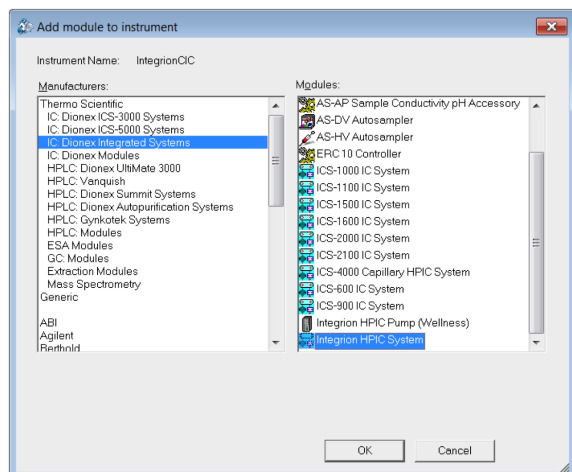
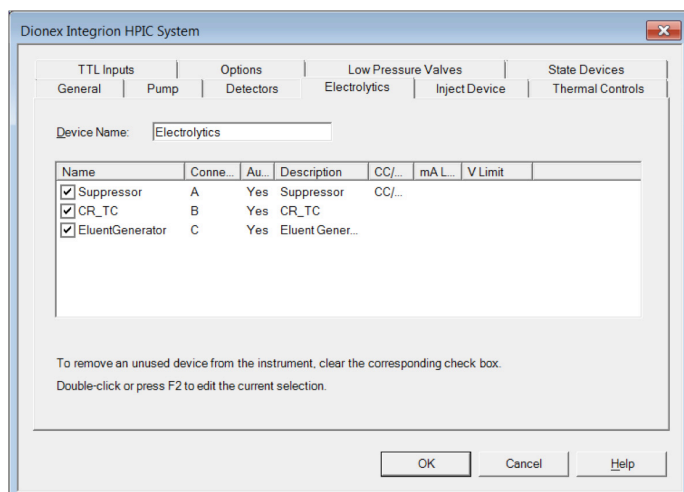

Figure 1. Creating a configuration
Figure 2. Automatic detection of electrolytic devices
1. Select *Add a Module, IC: Dionex Integrated Modules, and Integrion HPIC System* (Figure 1). A window with multiple tabs will automatically open up (Figure 2).
2. Select the Model Serial No. on the General tab. The Chromeleon CDS software will automatically detect all electrolytic devices, detectors (Figure 2), Pump Degasser, and Seal Wash pump (not shown).